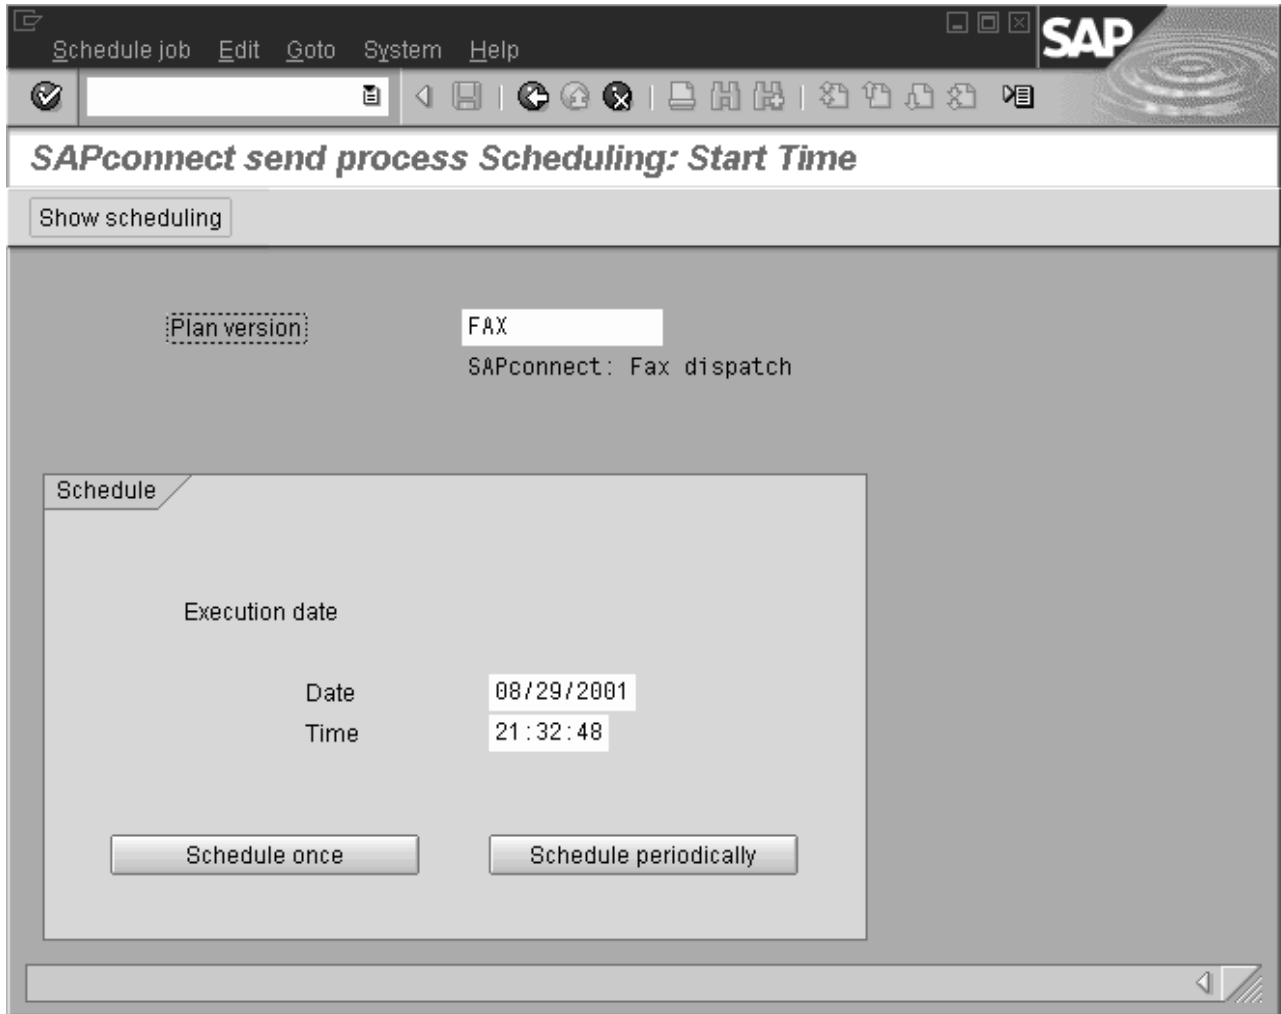

Figure 53. SAPconnect send process Scheduling: Start Time window
6. From the SAPconnect send process Scheduling: Start Time window (Figure 53 on page 125), you can specify the sending characteristics of this job by clicking on the **Schedule Periodically** button and set values for how often you want the fax requests to be sent.